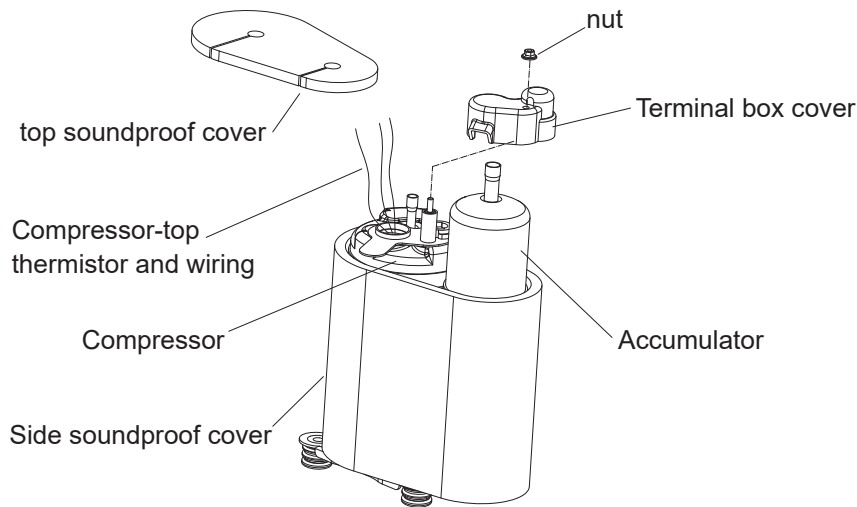

Fig.2.7
4. Open the soundproof cover wrapped around the compressor and remove the terminal box cover of the compressor body. Disconnect the compressor wires in the terminal box and remove the thermistor on top of the compressor, as is shown in Fig.2.7.